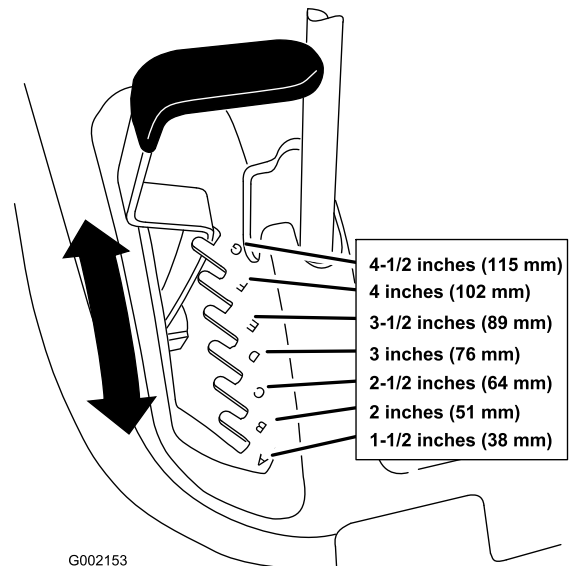

Figure 14
1. Raise the height-of-cut lever to the transport position (also the 4-1/2 inch (114 mm) cutting height position (Figure 14).
2. To adjust, pull up on the height-of-cut lever and move it to the desired position (Figure 14).